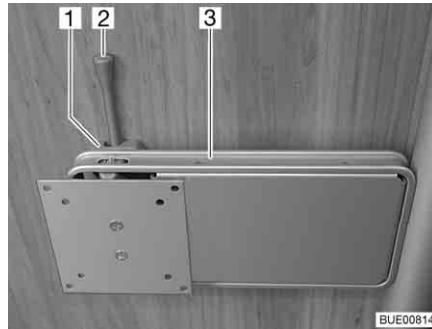

Fig. 74 Holder on the column
- Push the release lever (Fig. 74,2) to the side and turn the holder (Fig. 74,3) with the flat screen to the desired position.
- Turn the flat screen back until the holder (Fig. 74,3) engages in the lock (Fig. 74,1).